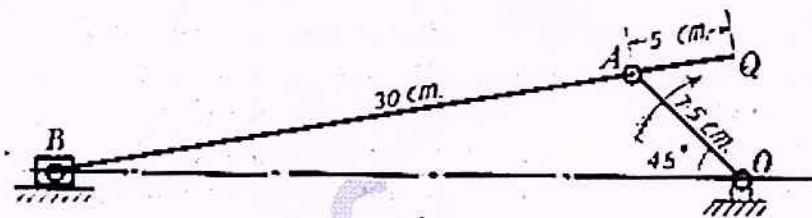

Figure 3
- 12 a) In the slider crank mechanism shown in Figure 3, the crank OA rotates with uniform velocity of 600 rpm. Determine the linear acceleration of slider Band also point Q located at a distance of 5 cm on the connecting rod extended.